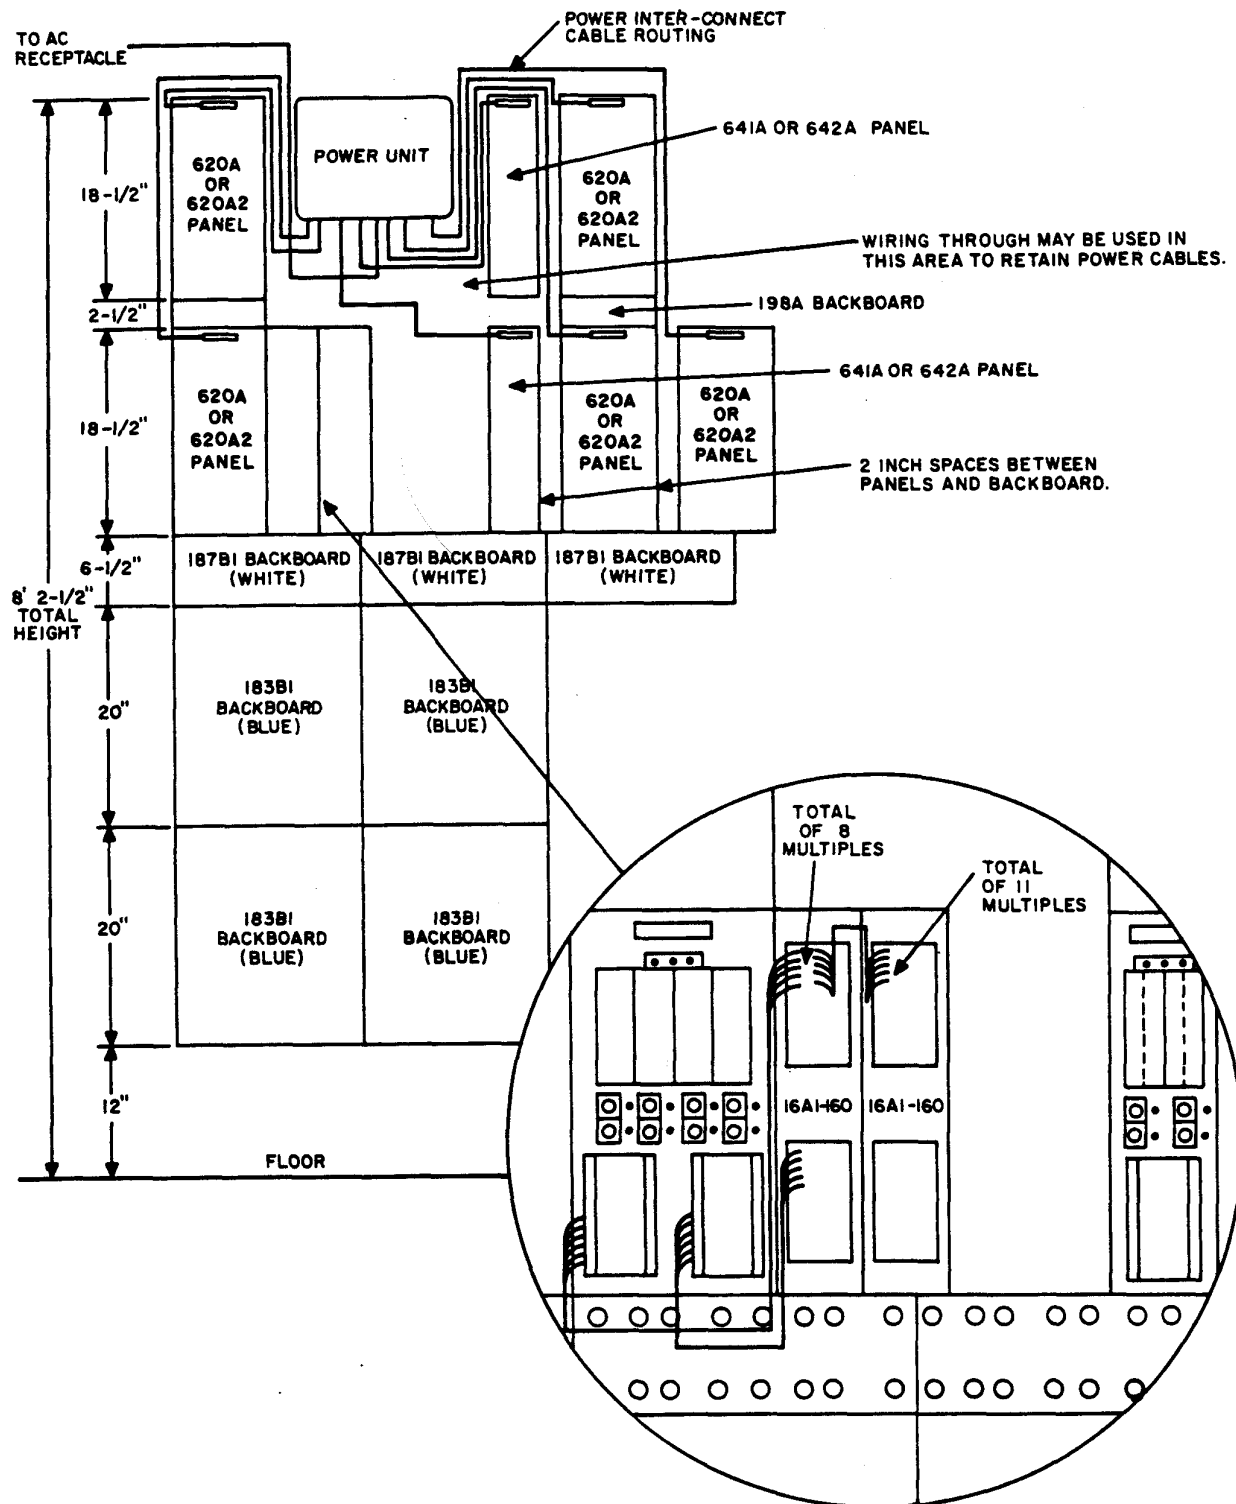

Fig. 9—Stacked Modular Apparatus and Method of Terminal Multiplying Using 16A1- 160 Terminal Blocks
**3.11** Where modular panels must be stacked one above the other, the following installation method is recommended (Fig. 9 and 10).